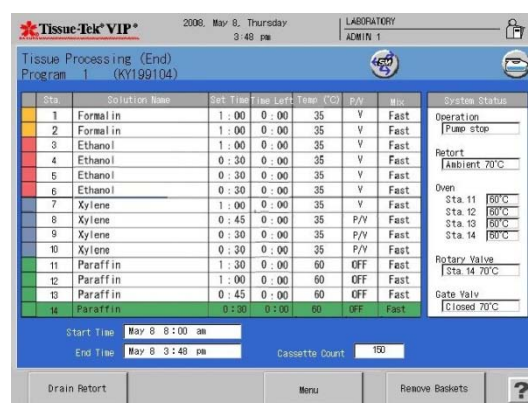

Figure 4-L
- The Tissue Processing End screen displays (Figure 4-L).